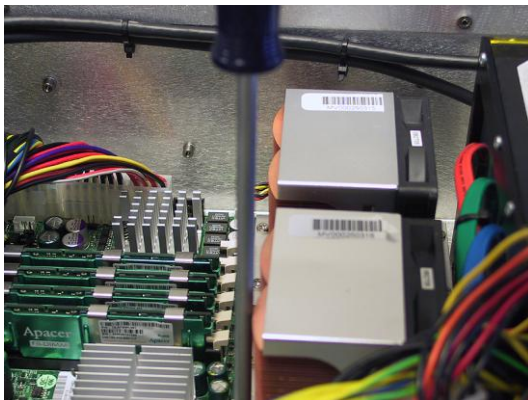

Figure 5-79
- 2) There are two screws on either side of the cooling fan assembly. Use a Phillips #2 screwdriver to loosen these captured screws (Figures 5-79 and 5-80).